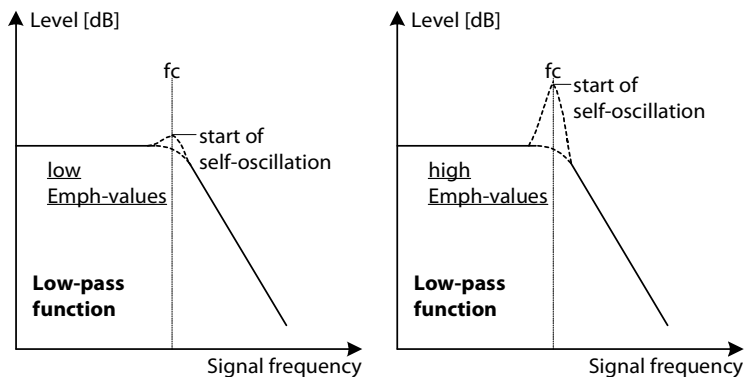

Fig. 6
**EMPH:** This function is really unique! It allows for control of the level of emphasis, independent from the strength of the resonance setting! Thanks to this, the tone produced by the self-oscillating filter will not necessarily have a high level, which makes it much easier to handle within a musical or timbral context. Use low Emph values (Emph = 0.05 – 0.1) and the filter will oscillate only slightly, use high values (Emph = 0.5 – 1) and the filter’s self-oscillation will produce very high output levels – just as you may know from any other synthesizer filter. Fig. 6 will help to explain this feature in a bit more detailed way.